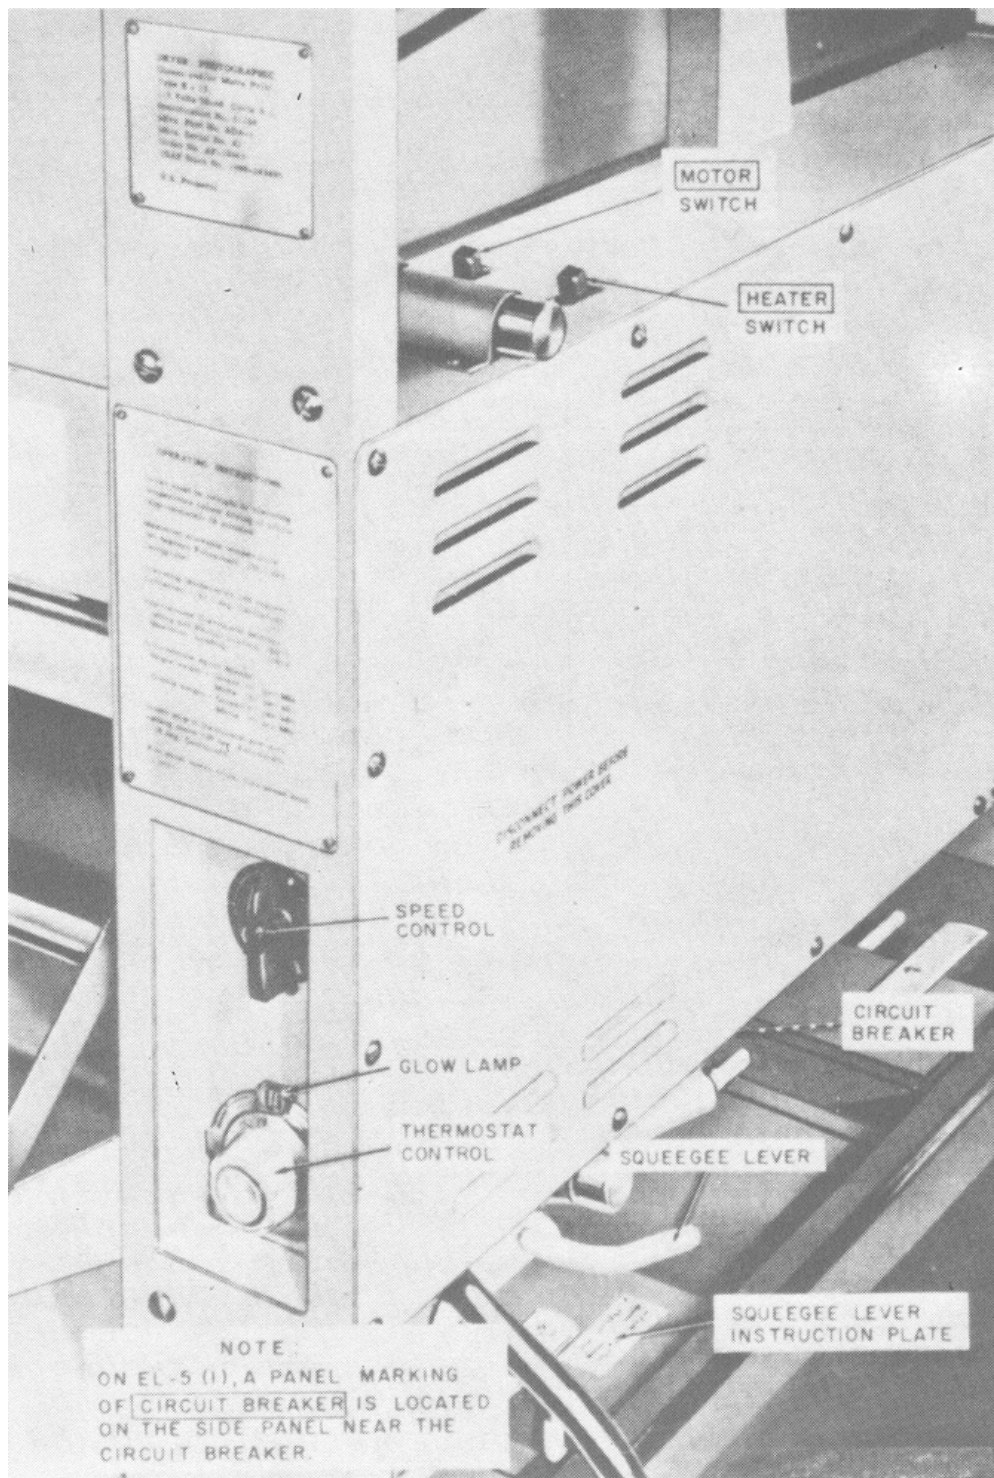
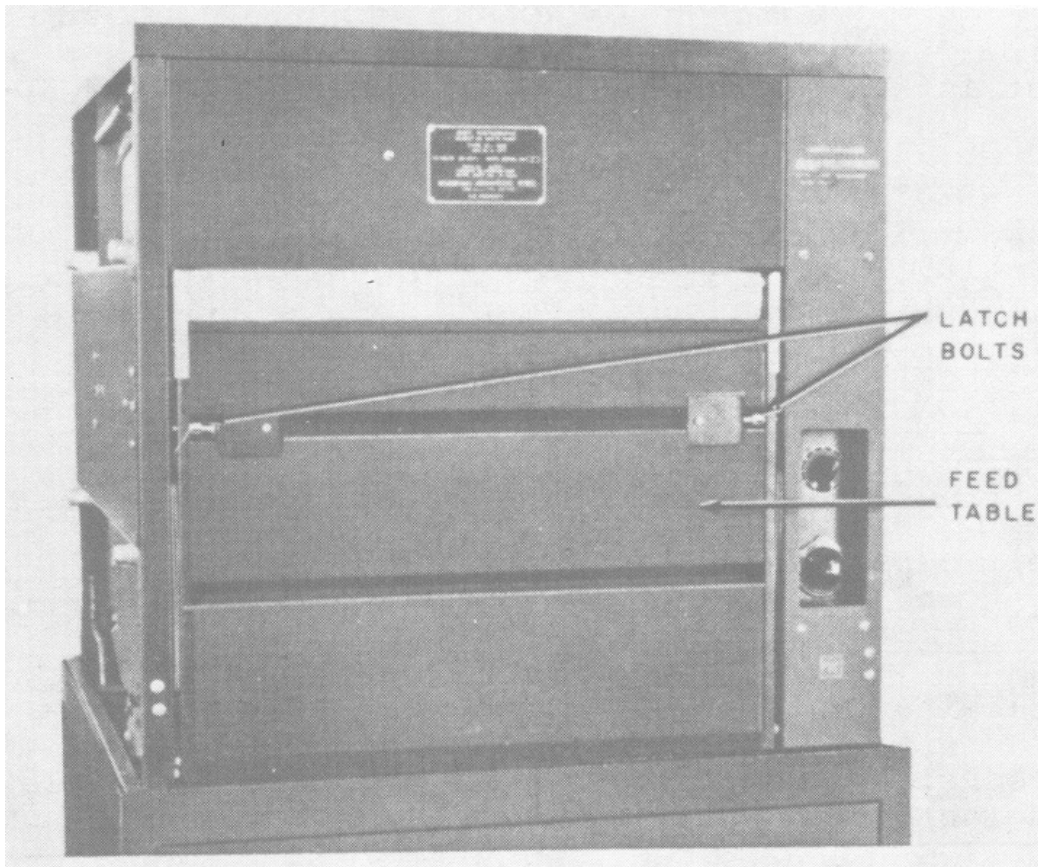
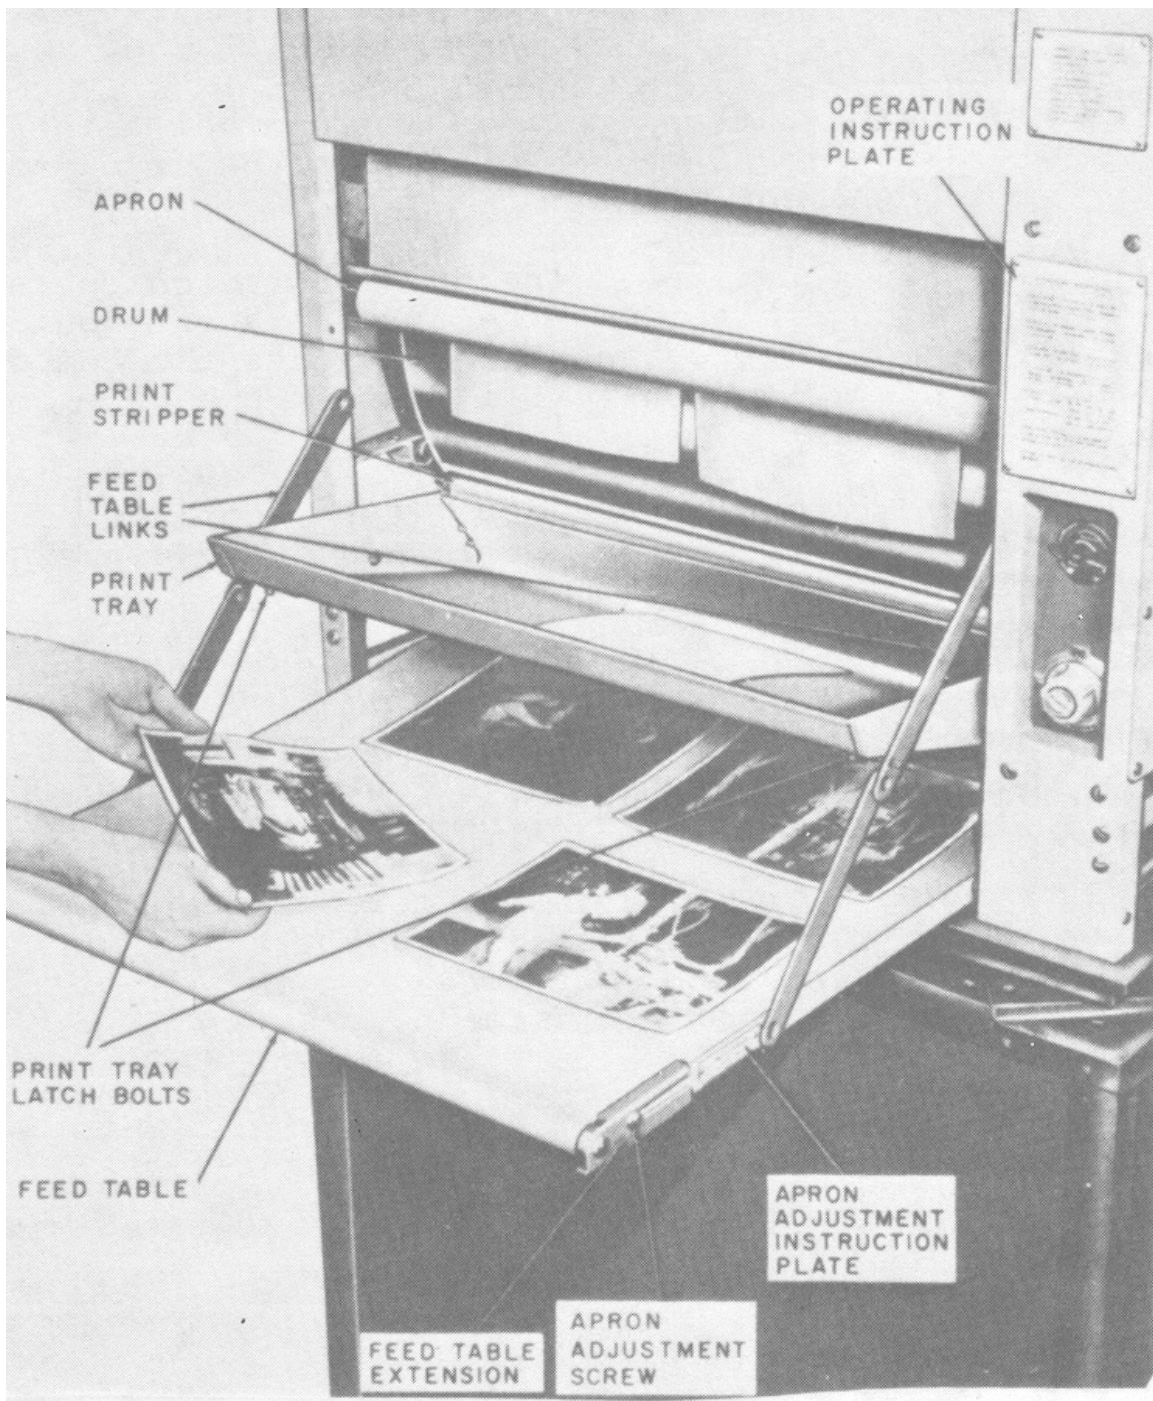

FIGURE 3-13. Controls and indicators.
FIGURE 3-14. Feed table in locked-up position.
FIGURE 3-15. Feed table and print tray in operating position.
3-39 Controls, Adjustments, and Indicators (figure 3-13)
Apron adjustment screw (fig. 3-15).	Adjusts lateral position of apron.
- a. Release the latch bolts (figure 3-14) and lower the feed table into operating position.
- b. Lower the print tray and engage its two latch bolts with the feed table links (figure 3-15).
d. Place the squeegee lever (figure 3-13) in the MATTE PRINTS position, rotate the drum by hand, and carefully dust the surface of the drum with a clean, lint-free cloth.
f. Operate the circuit breaker (figure 3-13) to the ON position.
(1) Loosen the apron adjustment screw (figure 3-15).
(2) To cause the apron to track more to the left, move the screw and feed table extension slightly away from the drier.
(3) To cause the apron to move more to the right, move the screw and feed table extension slightly toward the drier.
(4) Tighten the apron adjustment screw.
CAUTION: Do not allow the foreign material to collect on the drier at any time, particularly on the apron. Foreign material will be carried to the drum and mar the highly polished finish. Do not allow the print stripper cloth (figure 3-15) to fall between the drum and print tray.
- (1) Place the squeegee lever (figure 3-13) in GLOSSY PRINTS position.
- (2) Place the prints face (emulsion side) UP on the apron (figure 3-15) leaving approximately 1/2-inch distance between prints.
- (3) During operation, adjust the speed and thermostat controls (c below).
- (1) Place the squeegee lever (figure 3-13) in the MATTE PRINTS position.
- (2) Place the prints face (emulsion side) DOWN on the apron (figure 3-15) leaving approximately 1/2-inch distance between prints.
(3) During operation, adjust the speed and thermostat controls (c below).
c. Adjusting speed and thermostat control (figure 3-13)
- a. Operate the thermostat control (figure 3-13) to the OFF position.
- g. Unlock the print tray latch bolts from the feed table links (figure 3-15) and raise the print tray and feed table to the vertical flush position (figure 3-14).